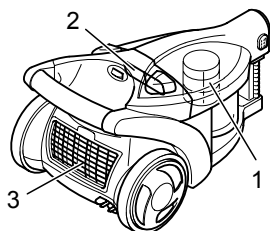

Fig. 19
- Central laminar filter (Fig. 19/1)
- Protective motor filter (Fig. 19/2)
- Hygienic blow-out filter (Fig. 19/3)